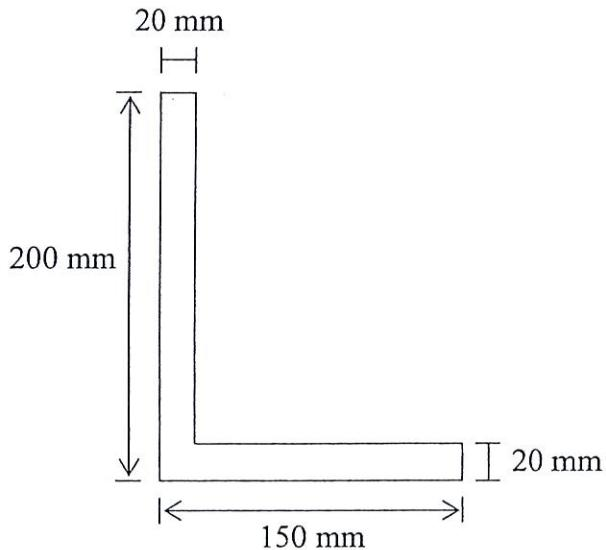

Figure B1(b) / Rajah B1(b)
- CLO2 (c) A simply supported beam with unsymmetrical I-section as shown in Figure B1(c) is subjected to a uniformly distributed load. The bending moment maximum, M_{max} is given as 150 kNm. Based on figure B1(c) :